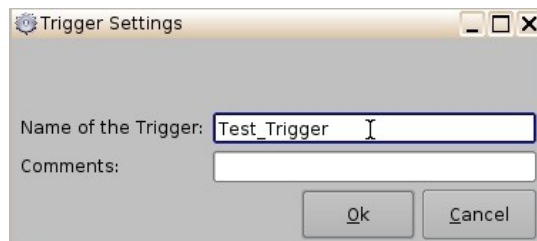

Figure 195: Trigger Cue Setting Window
- The same type of window for the Automation Cue tab allowing the user to enter the Trigger Cue name will appear (Figure 195).